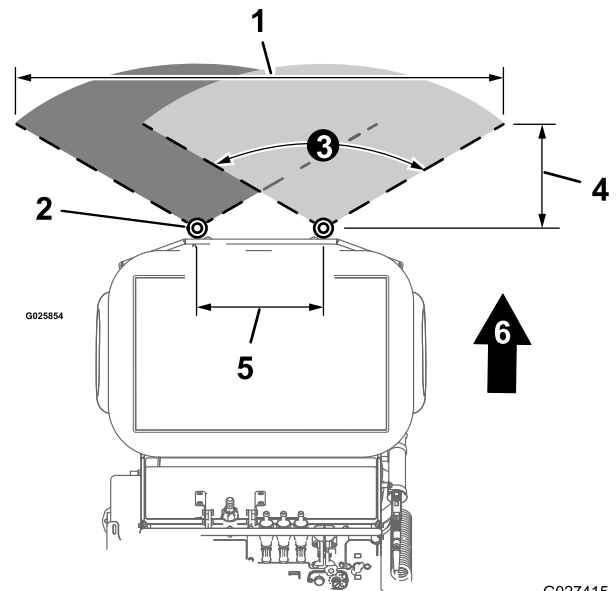

Figure 50
- The wide-spray pattern (Figure 50) on this machine is **274 cm (108 inches)** wide.